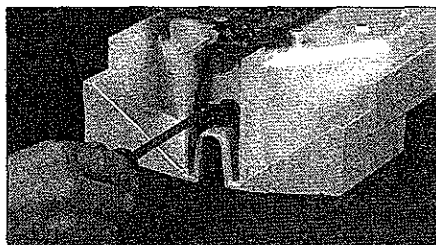

Figure 54
3. Remove the two (2) 6-32x3/8" Phillips pan-head screws that secure the transducer, and pull out the transducer and transducer cap from the front enclosure as illustrated in Figure 54.
2. Place the transducer cap onto the transducer. Install the two (2) 6-32x3/8" Phillips pan-head screws and attach the transducer/cap to the front enclosure as illustrated in Figure 54. Ensure that the transducer cable will not be pinched when the rear enclosure is attached.